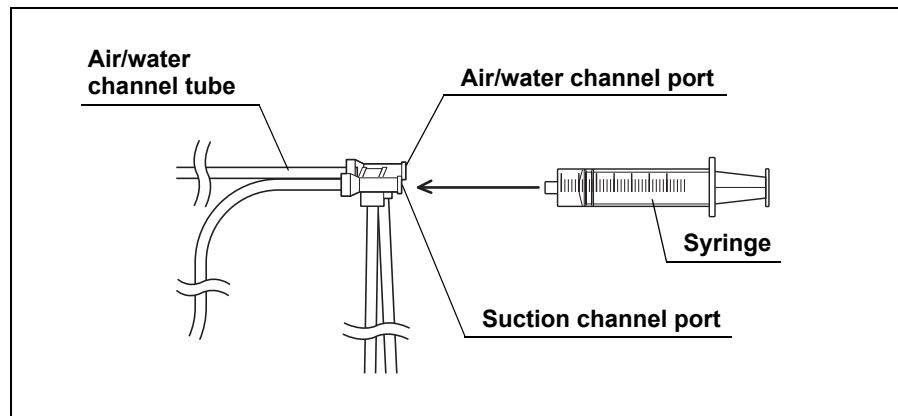

Figure 5.38
8. Attach the syringe to the suction channel port of the injection tube and flush the suction channel with 90 ml of air. (See Figure 5.38)
2. Attach a clean 30 ml syringe to the suction channel port of the injection tube and forcefully flush the suction channel with 180 ml of the disinfectant solution – i.e., by pumping the syringe at least six times. Confirm that no air bubbles exit the distal end of the endoscope's insertion section during the sixth flush. If air bubbles still exit, flush the channel with the disinfectant solution until no air bubbles exit. (See Figure 5.38)
3. Attach a sterile 30 ml syringe to the suction channel port of the injection tube and flush the suction channel with 90 ml of air – i.e., pump the syringe at least three times. (See Figure 5.38)
5. Attach a sterile 30 ml syringe to the suction channel port of the injection tube and flush the suction channel with 90 ml of the rinse water – i.e., pump the syringe at least three times. (See Figure 5.38)